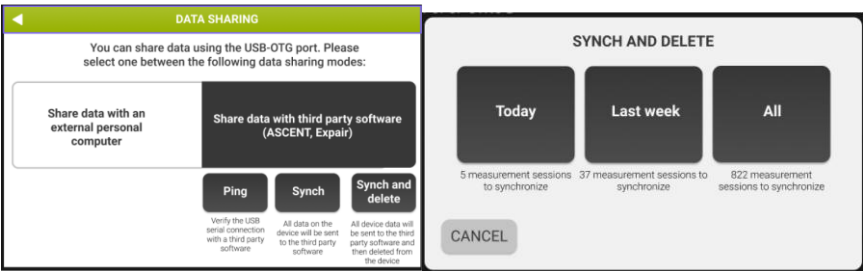

Figure 22 - Synchronization selection
- 6. Select *Sync and delete* to synchronize and delete data from the internal database. The Synchronization can be performed on measurements of the current day, last week or all data. Once data synchronization is ended the data on the device will be deleted (Figure 22).